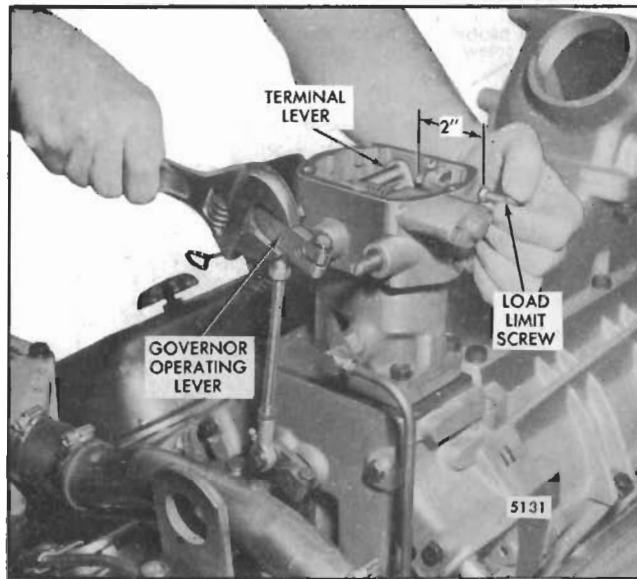

Fig. 6 - Adjusting Load Limit Screw
18. With the load limit screw backed all the way out, retain the governor operating lever in the full-fuel position. The governor terminal lever should touch the boss in the governor housing (Fig. 6). Adjust the vertical link so that all of the injector racks are in the full-fuel position, then tighten the rod end lock nuts securely.
1. Loosen the load limit screw locknut (Fig. 6) and adjust the screw to obtain a distance of approximately 2" from the outside face of the boss on the governor sub-cap to the end of the screw.
2. Place the fuel rod and terminal lever in the full-fuel position-(Fig. 6).